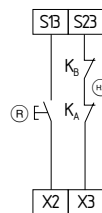

Fig. 3
**Dual-channel control, shown for a guard door monitor; with two contacts A and B, where at least one is a positive break contact; with external reset button  $\text{\textcircled{R}}$  (see Fig. 3)**
**External reset button (with edge detection) (see Fig. 3)**